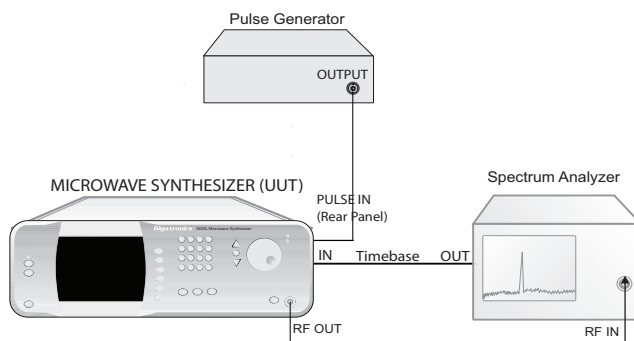

Figure 4-9: Pulse Modulation On/Off Ratio Test
1. Connect the test equipment and UUT as shown in Figure 4-9.